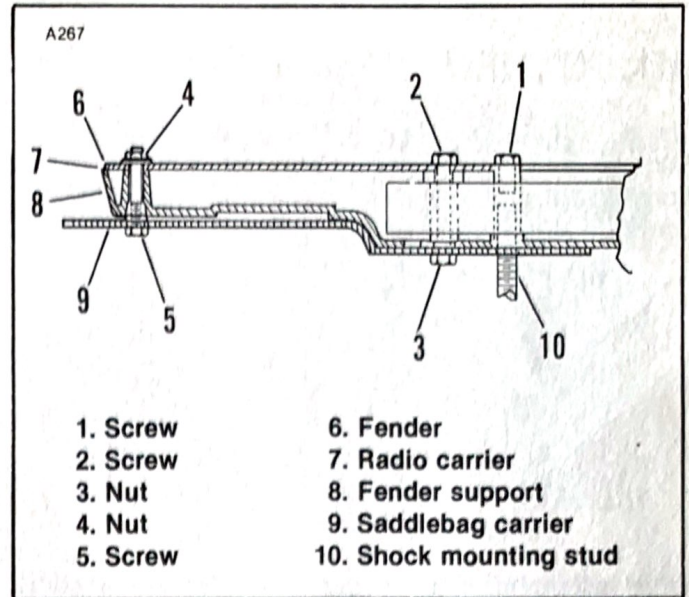

Figure 2-11. Fender, Radio Carrier and Saddlebag Carrier Mounting
2. See Figure 2-11. Remove screw (5) and nut (4) at rear of saddlebag frame. Remove through bolt (2) and nut (3). Remove screw (1).
2. See Figure 2-11. Place radio carrier over fender and at inboard side of frame. Align mounting holes and install screw (1) to hold components in place.
4. Place fender support (8) and then saddlebag carrier (9) over shock mounting stud (10). Align fender support (8) and saddlebag carrier (9) mounting holes. Insert screw (5) through saddlebag carrier fender support, radio carrier and fender. Secure screw (5) with nut (4).
5. From inside fender, insert screw (2) through fender (6), radio carrier (7), frame, fender support (8) and saddlebag carrier (9).